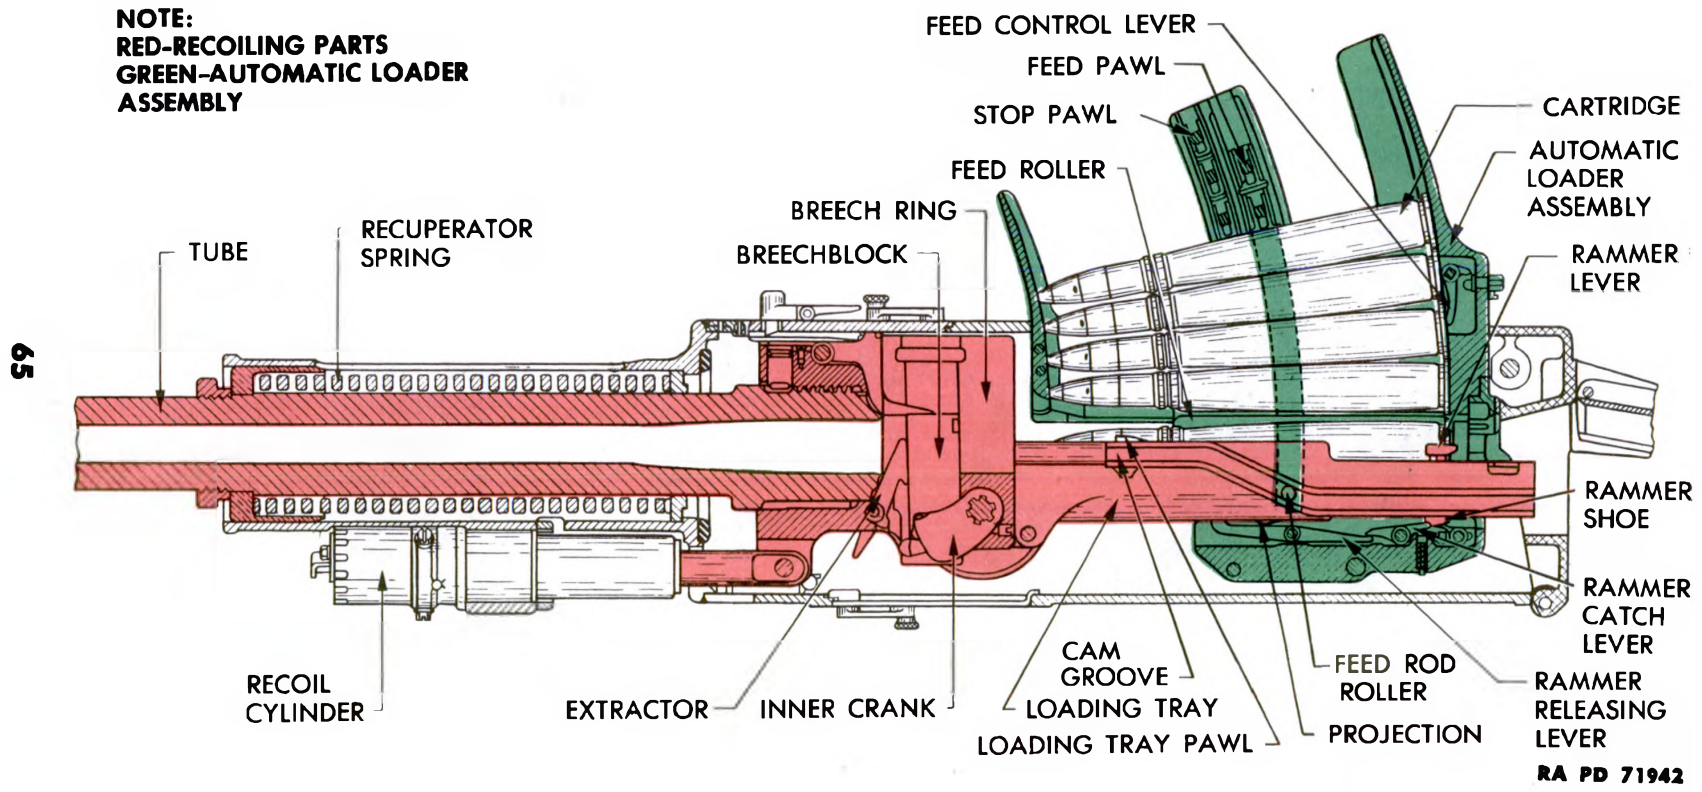

Figure 42 – Automatic Firing Cycle – Fourth Stage – Cartridge on Loading Tray
(1) **FOURTH STAGE.** The tube, breech ring, and loading tray start to move into battery. The breechblock moves slightly upward under the action of the closing spring until it is brought to a stop and held by the extractor heads engaging the notches in the tops of the breechblock projections. The rammer shoe is engaged by the rammer catch lever, holding the shoe and compressing the rammer spring as the tube, breech ring, and loading tray move into battery (fig. 42). The right check lever is held out of engagement because there are sufficient cartridges in the loader to hold the feed control lever in its rearward position. The left check lever is held out of engagement be-
(2) As the loading tray moves forward, the loading tray pawls on the front end of the tray engage the lugs on the feed roller catch heads, rotating the catch heads, and releasing the feed rollers for one-quarter turn. At the same time, the feed rod rollers enter the declined portion of the cam grooves on the loading tray, forcing the feed rods and pawls downward. The feed pawls engage the cartridges, forcing them downward.
(3) The lowest cartridge rotates the feed rollers, passes through them, and drops on the loading tray into the rammer shoe levers. The pawls on the feed roller catch heads engage the feed rollers, preventing them from revolving more than one-quarter turn, thus preventing more than one cartridge from passing through. The cam slots in top of the loading tray cause the heads of the rammer levers to be forced inwardly to grip the rim of the cartridge. Figure 42 shows the position of the parts as the cartridge drops onto the loading tray and its rim is engaged by the rammer levers.